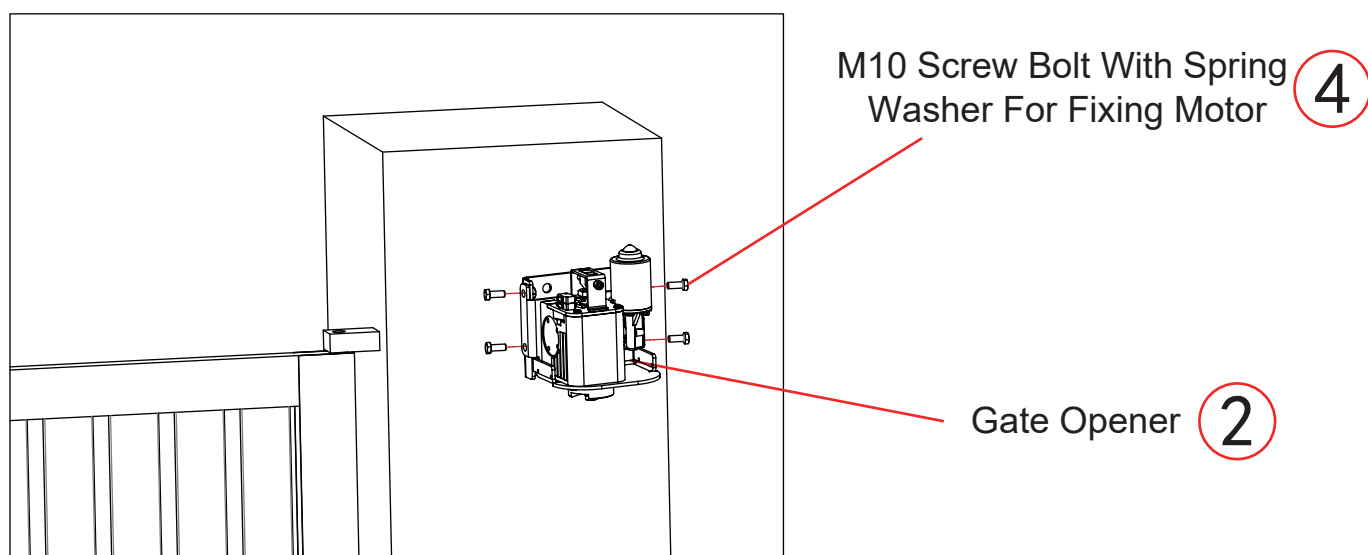

Figure 2
2. Fixing the ② gate opener with ④ M10 screw bolt with spring 4 washer. Refer to the Figure 2.